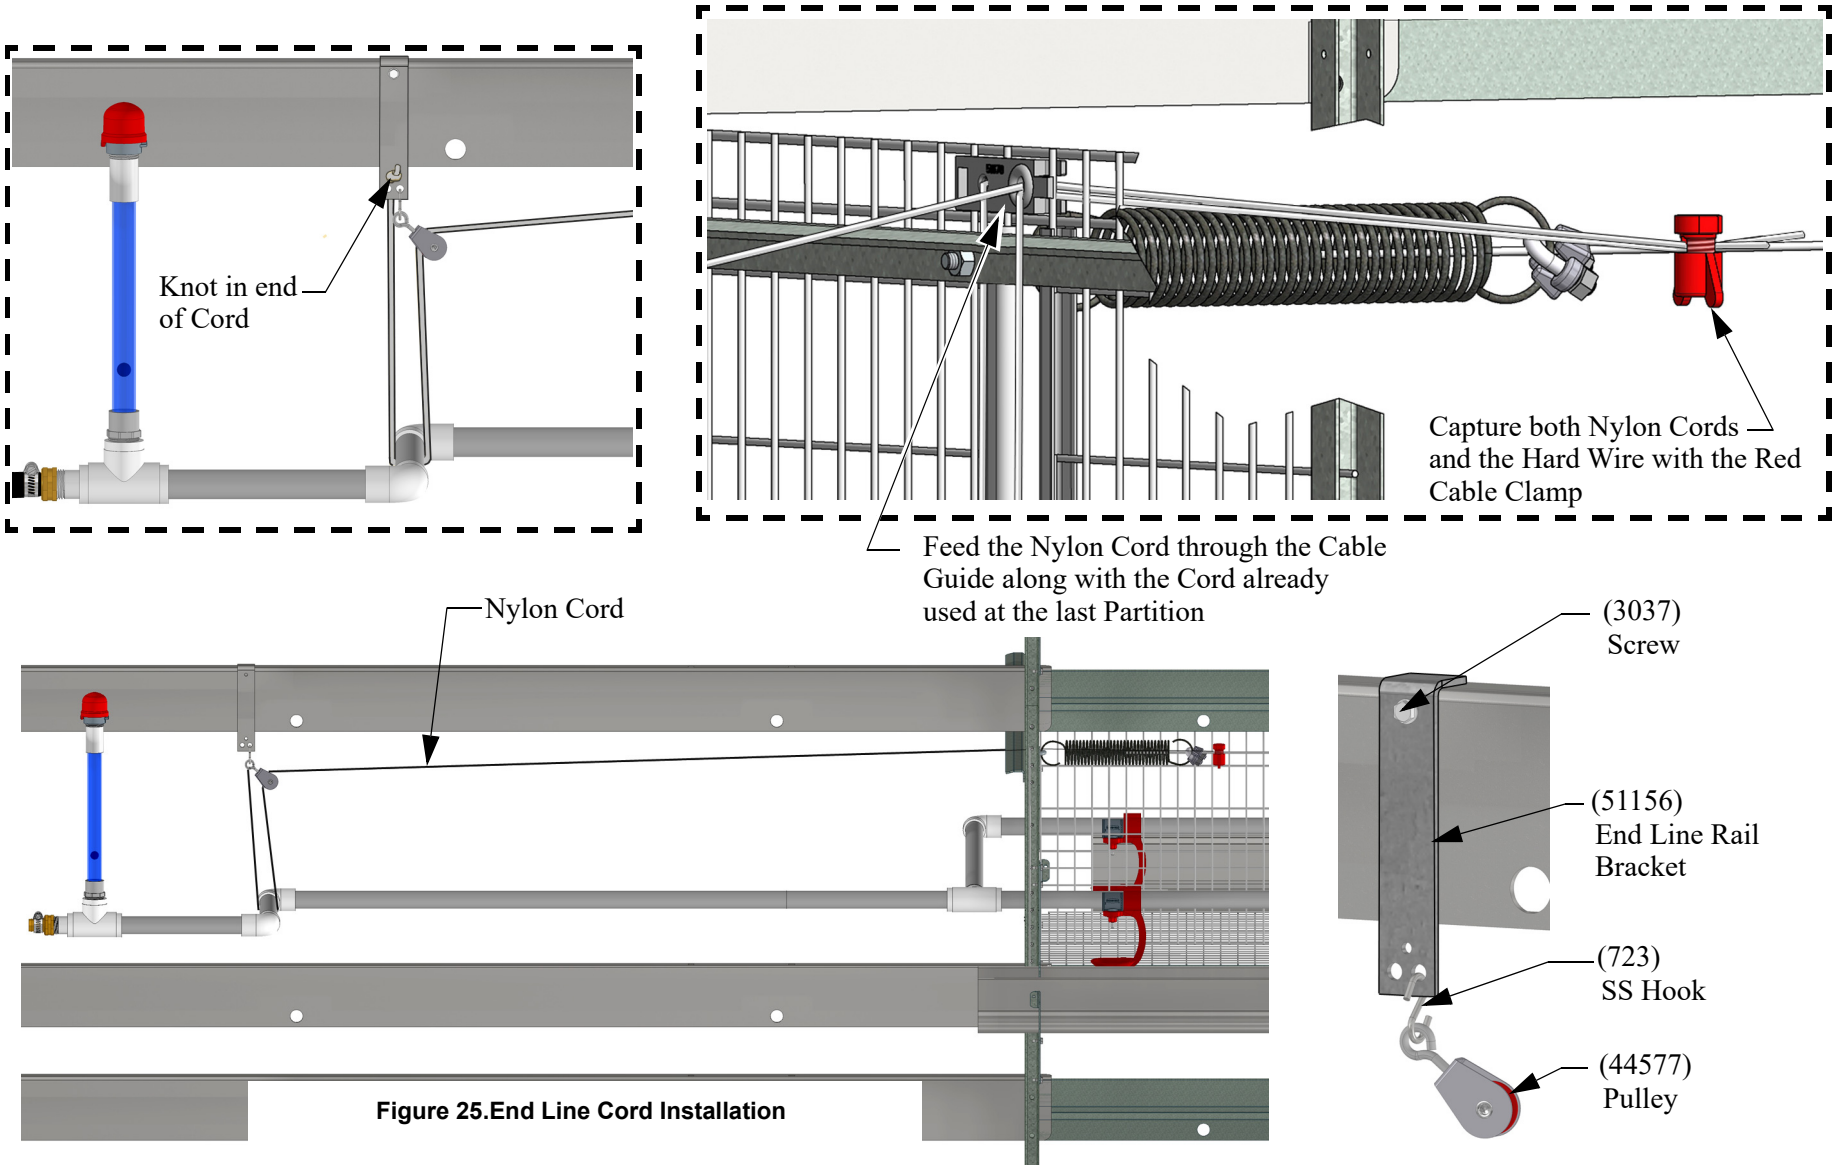

Figure 25. End Line Cord Installation
2. Install a Stainless Hook (723) and a Pulley (44577) on the Drive Rail.
3. Tie a knot in the end of the Nylon Cord and install it as shown in (Figure 25.)